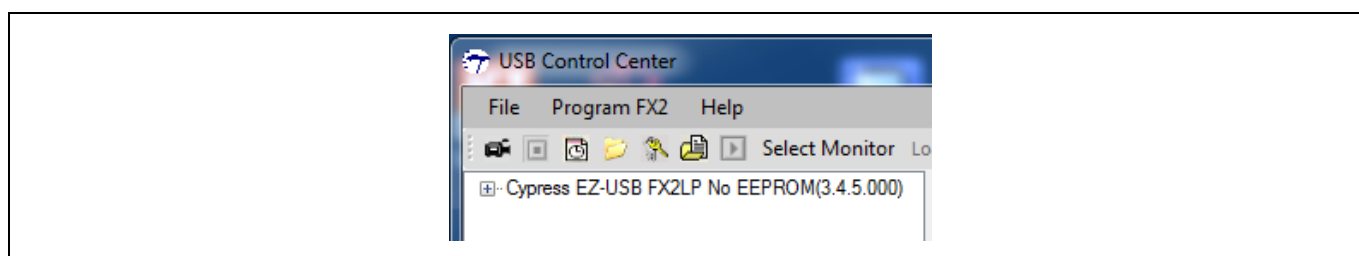

Figure 21 FX2LP Board in USB Control Center
17. You should see the FX2LP board along with other connected USB devices listed in the left panel. To view only the FX2LP board, click the **Device Class Selection** tab in the right panel and uncheck everything but **Devices served by the CyUSB.sys driver (or a derivative)**. The left panel should appear similar to Figure 21.